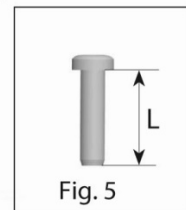
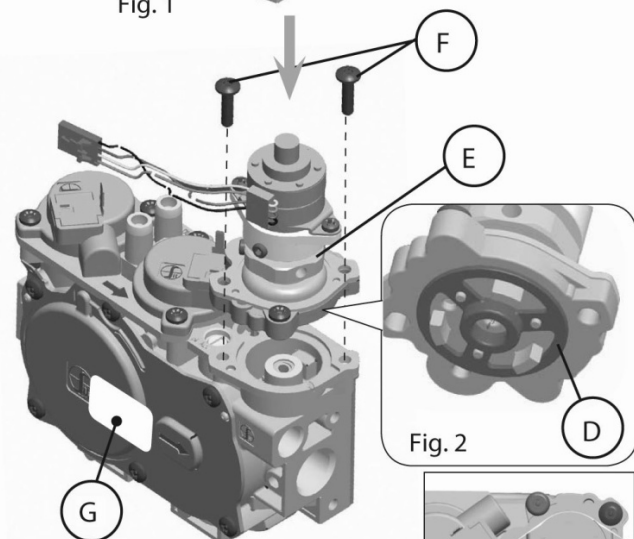
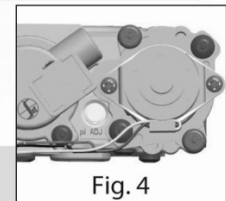

Fig. 5
Fig. 3
Fig. 4
- 4 Install the new STEPPER MOTOR pressure regulator assembly, as shown in Fig. 3 and Fig. 4. Use the supplied screws (F), M4 x 0.7 threaded, length of thread $L=(16\text{ mm} + 0 - 0.5\text{ mm})$, steel material, resistance class 8.8 (see Fig. 5).